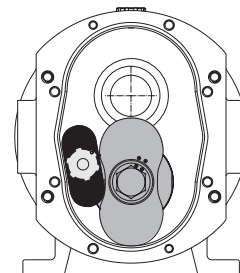

Figure 6
5. Position the rotor locking tool **111** as shown in figure 6.